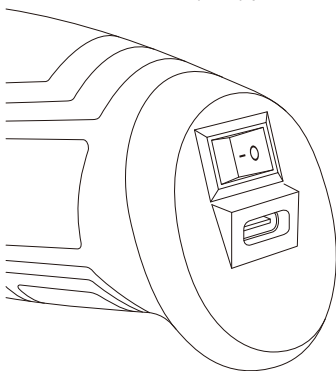

Figure 4
2. TURNING THE PRODUCT ON AND OFF (SEE FIG. 4)
- Set the ON/OFF switch to the “I” (ON) position to turn the product on.